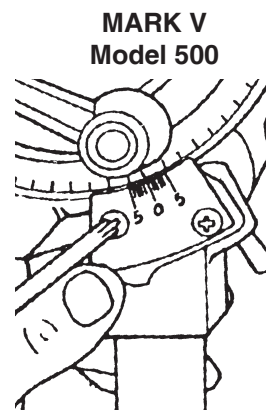

Figure 35
2. To adjust the scale, use a Medium Phillips Screwdriver to loosen the two Screws which hold the Indicator to the Tie Bar. See Figure 35 or 36. Then while holding the Indicator in position so the 0's are aligned, retighten the Screws.